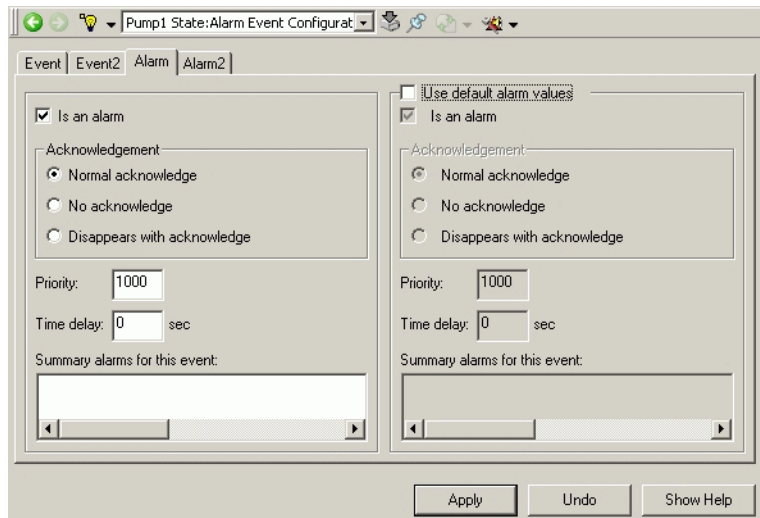

Figure 30. Adjusting Alarm Parameters
5. The **Alarm** tab, Figure 30, is used to adjust the alarm handling parameters originally configured as described in Configuring Alarm and Event Handling on page 54.